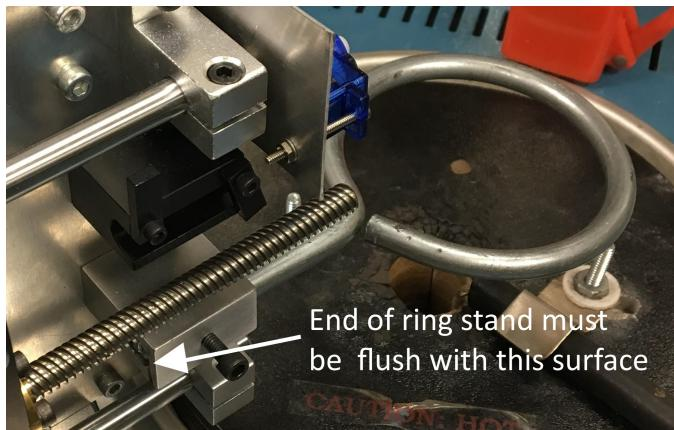

Figure 17: Place the ring stand so its end is flush with the inside surface of the mount block
- Note that the end of the ring stand rod must be nearly flush with the inside surface of the ring stand mount block See Figure 17